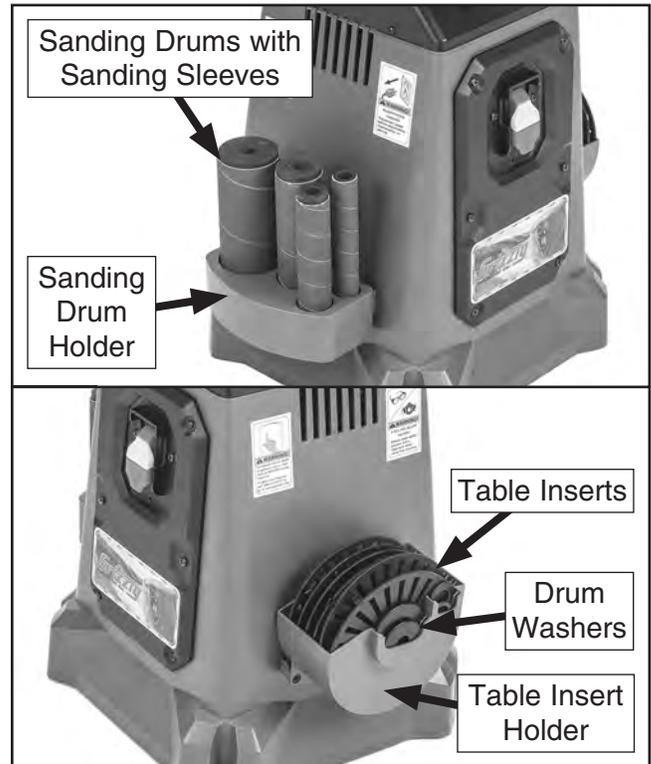

Figure 10. Sanding drums with sleeves, table inserts, and drum washers placed in holders.
3. Place table inserts, drum washers, and sanding drums with sleeves in corresponding accessory slots in holders (see **Figure 10**).